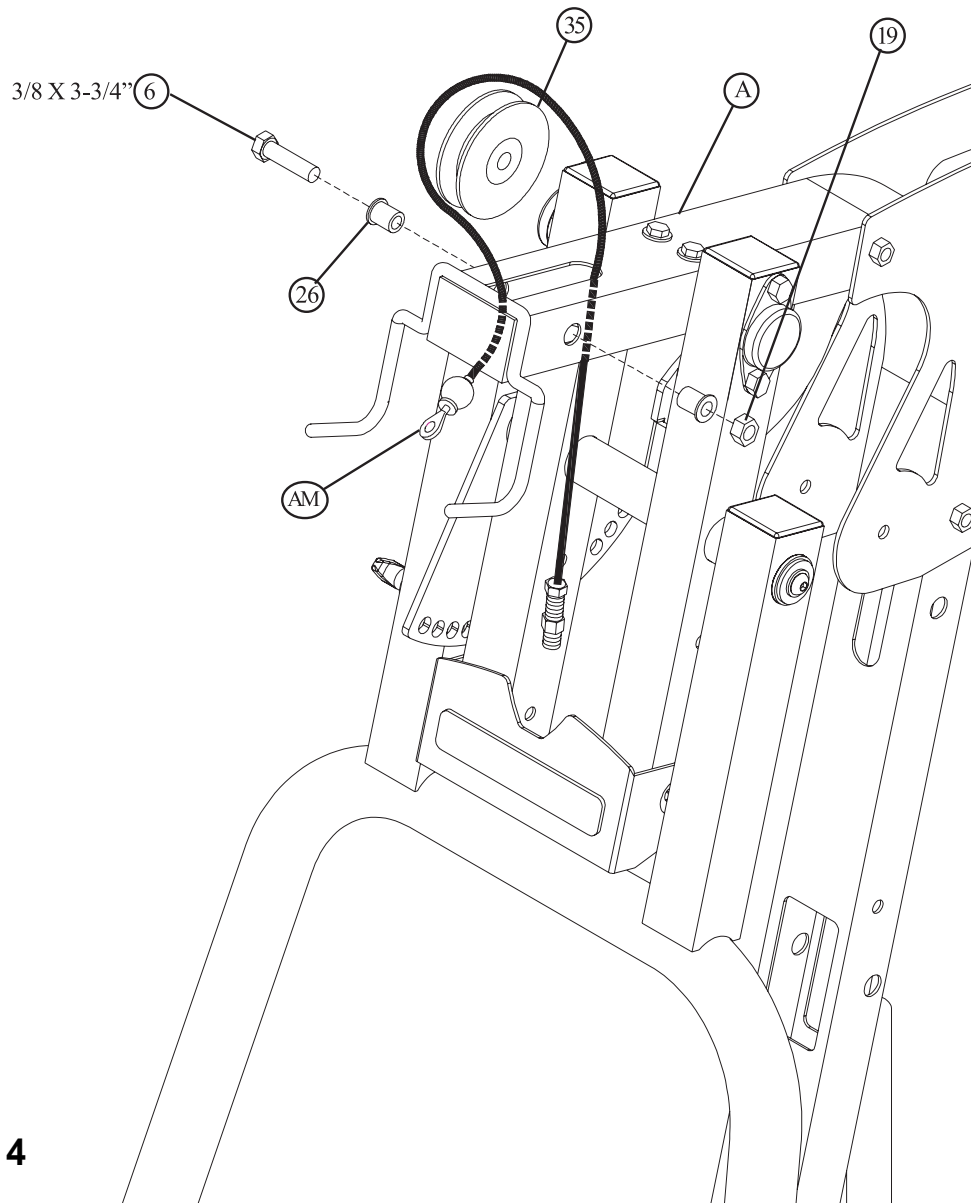

**FIGURE 13**
- Disassemble the PRESS ARM PIVOT SHAFT from the PRESS ARM (H) by removing the two 3/8 X 3/4" ALLEN SCREWS and two 3/8" FLAT WASHERS as shown in FIGURE 13.
- Insert the PRESS ARM PIVOT SHAFT thru the PRESS ARM (H) and the PRESS ARM SUPPORT FRAME (X) and then reassemble the 3/8 X 3/4" ALLEN SCREWS and 3/8" FLAT WASHERS to the PRESS ARM PIVOT SHAFT as shown in FIGURE 13. (**Note: Tighten this connection enough to remove excess play yet allow the PRESS ARM to rotate freely.**)
- Pull back on the SPRING PIN and rotate the PRESS ARM (H) until the SPRING PIN connects with the PRESS ARM ADJUSTMENT (Y).